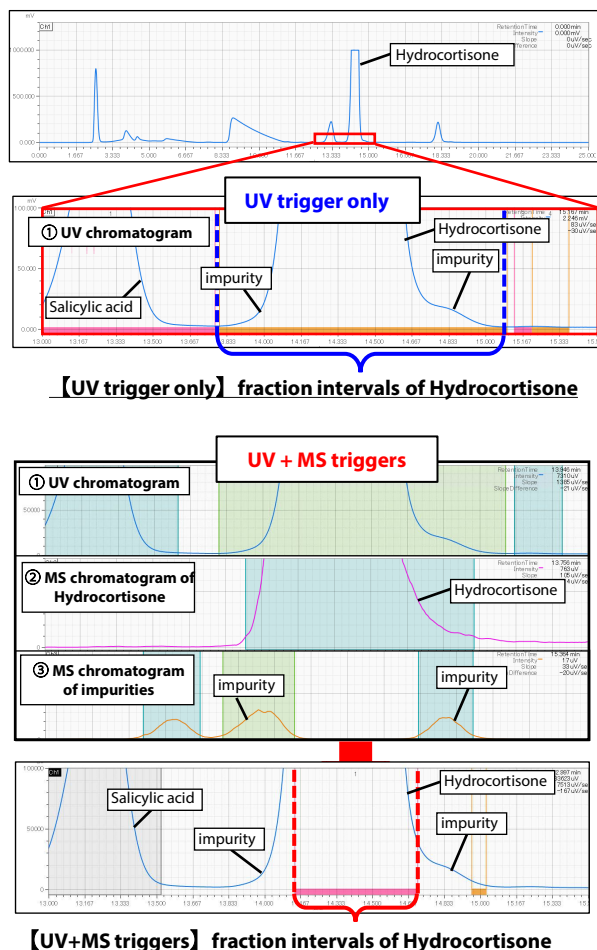
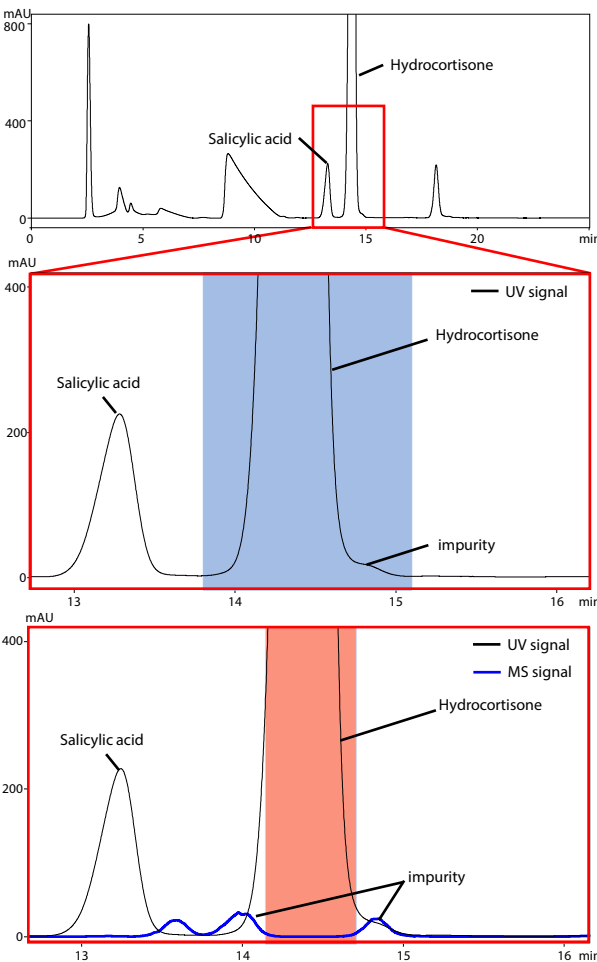

Fig. 3 Fractionation Simulation
Fig. 4 Comparison of Fractionation Results between "UV trigger only" (blue colored interval) and "UV + MS triggers" (red colored interval)
Fig. 3 displays the results of fractionation simulations of Hydrocortisone using two settings: "UV trigger only" and "UV + MS triggers." In the case of fractionation using only the UV trigger (① in the upper part of Fig. 3), there was a risk to fractionate co-eluted impurities at the beginning and/or the end of the Hydrocortisone peak. On the other hand, by combining MS and UV triggers (①, ②, and ③ in the lower part of Fig. 3), impurity information from the MS chromatogram can be used for fractionation. Thus, the intervals where two impurities were eluted were eliminated from the fractionation, resulting in a higher purity of the recovered solution. The actual results of the fractionation using these settings are shown in Fig. 4 (fractionation conditions: Table 1). As demonstrated in the fractionation simulations in Fig. 3, in the case of "UV trigger only," the blue interval was fractionated, and the recovered solution contained very few impurities. However, in the case of "UV + MS triggers," the MS chromatogram of impurities (③ in Fig. 3) indicated that impurities were eluted at two locations: the beginning and the end of the Hydrocortisone peak. Consequently, the fractionation was able to eliminate these impurity intervals.